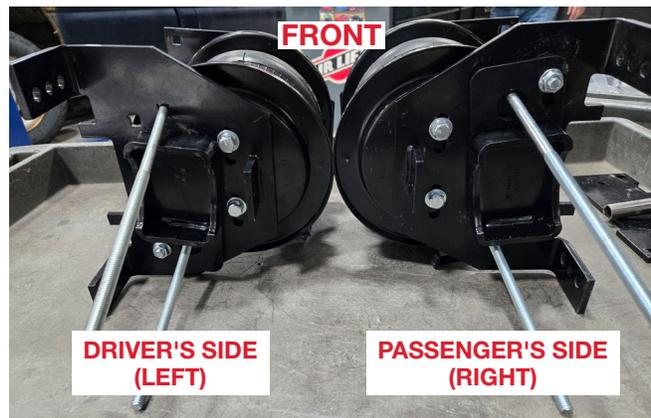

Fig. 14
- Push the lower bracket as far forward as possible to match the upper bracket (refer to Fig. 14). Torque the hardware to no more than 20 lb.-ft. (27Nm).